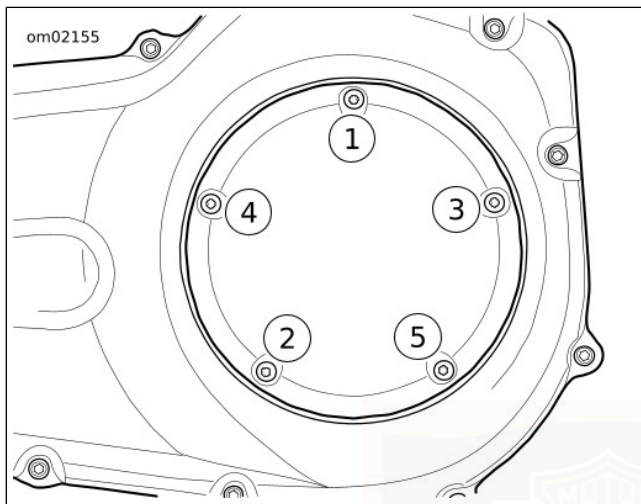

Figure 54. Clutch Cover Tightening Sequence
- b. Secure clutch inspection cover with screws with captive washers (3).
- c. See Figure 54. Tighten in sequence shown.